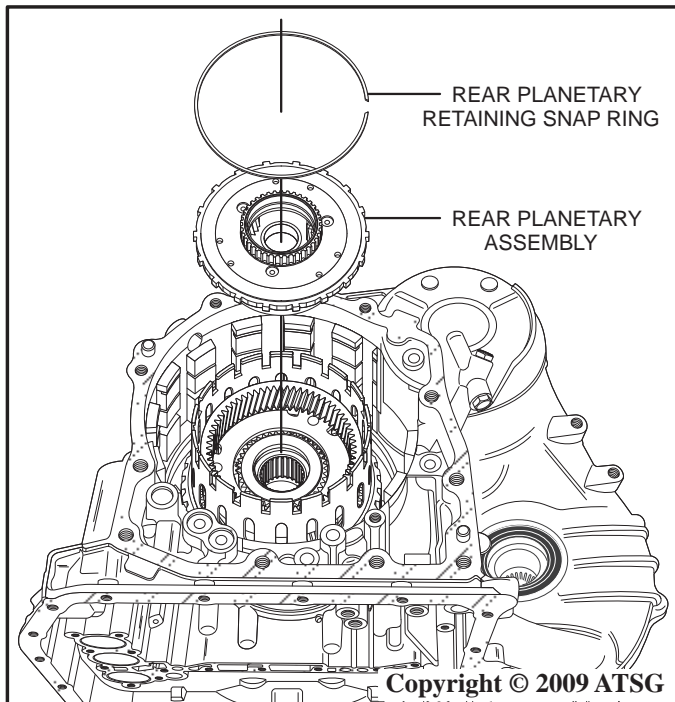

Figure 156
22. Install the rear planetary as shown in Figure 156.
23. Install the rear planetary retaining snap ring using a screwdriver as shown in Figure 156.